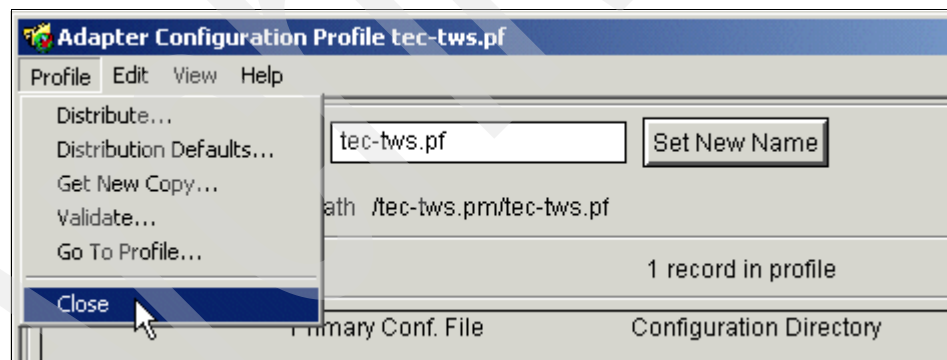

Figure 8-43 Closing the Adapter Configuration Profile window
22. Select **Profile** → **Close** as shown in Figure 8-43.